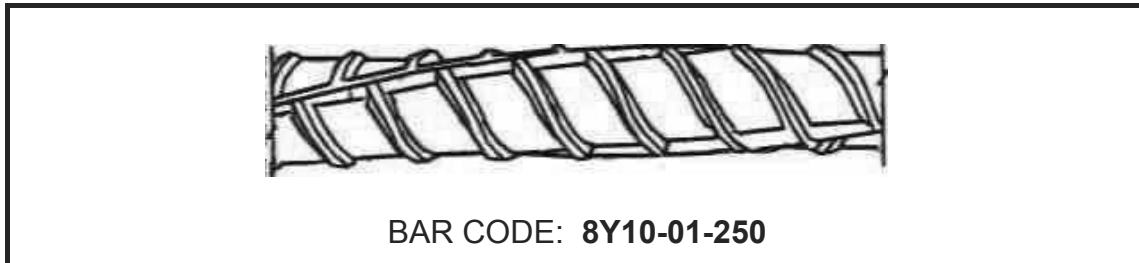

FIGURE 6.1
6.1 Answer the following questions with regard to the bar (rod) code in FIGURE 6.1.